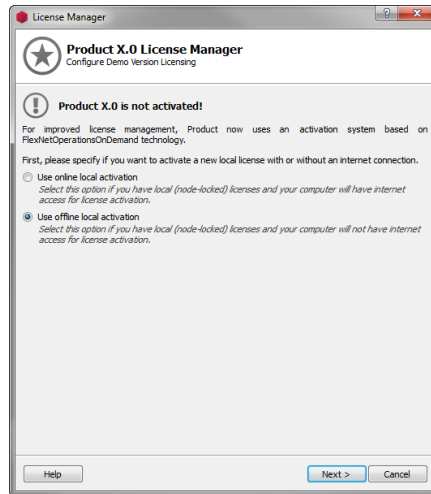

Figure 1.21: License Manager - Demo Activation Wizard - Configure Demo Version Licensing Offline
- On the first page of the Activation Wizard, select **Use offline activation codes** and click **Next** (see Figure 1.21).